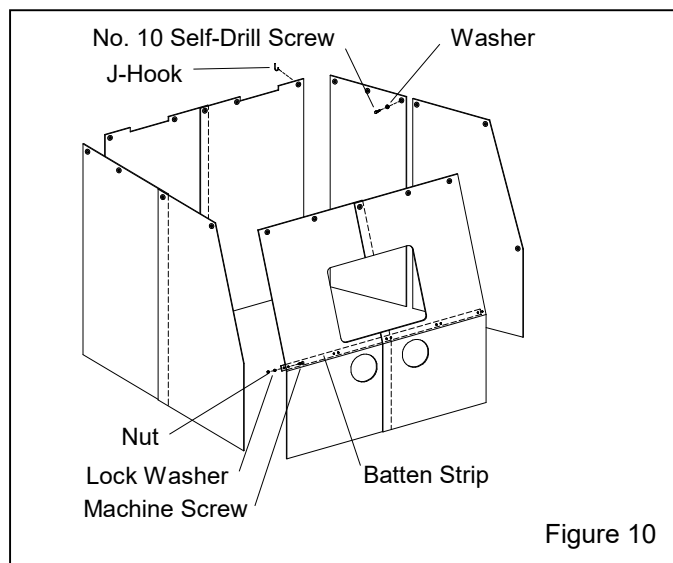

Figure 10
3.1 Cabinet Curtains Installation – Figure 10
3.1.1 Match the curtains to the corresponding wall and door as shown in Figure 10. Hook the curtains to the J-Hooks welded along the top of the front, back, and sidewalls. Cut openings for the hoses on the lower-left rear wall.
3.1.3 For front walls, place the batten strip over the curtain and clamp it in position on the front slope above the break, as shown in Figure 10. Match drill .187" (3/16") diameter holes through the rubber and cabinet front at each batten hole. To install the batten, insert #10-24 x 1" round-head machine screws through the cabinet front, curtain, and batten. Install lock washers and nuts from inside the cabinet and tighten securely.